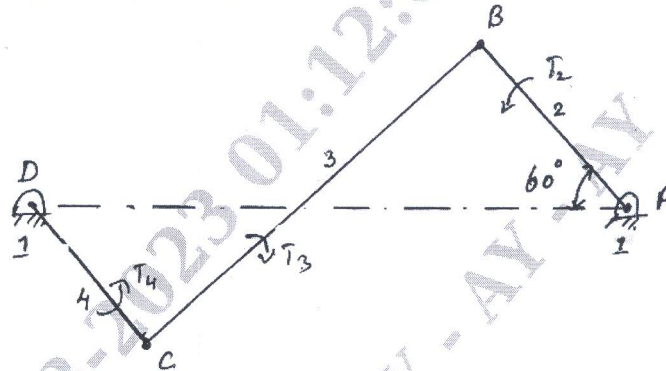

Fig. Q4
- 4 In a four bar mechanism shown in Fig. Q4 torque $T_3 = 3000 \text{ Nm}$ and $T_4 = 2000 \text{ Nm}$. Take $AD = 800 \text{ mm}$, $AB = 300 \text{ mm}$, $BC = 700 \text{ mm}$ and $CD = 400 \text{ mm}$ for static equilibrium of mechanism, find the required input torque on the crank.